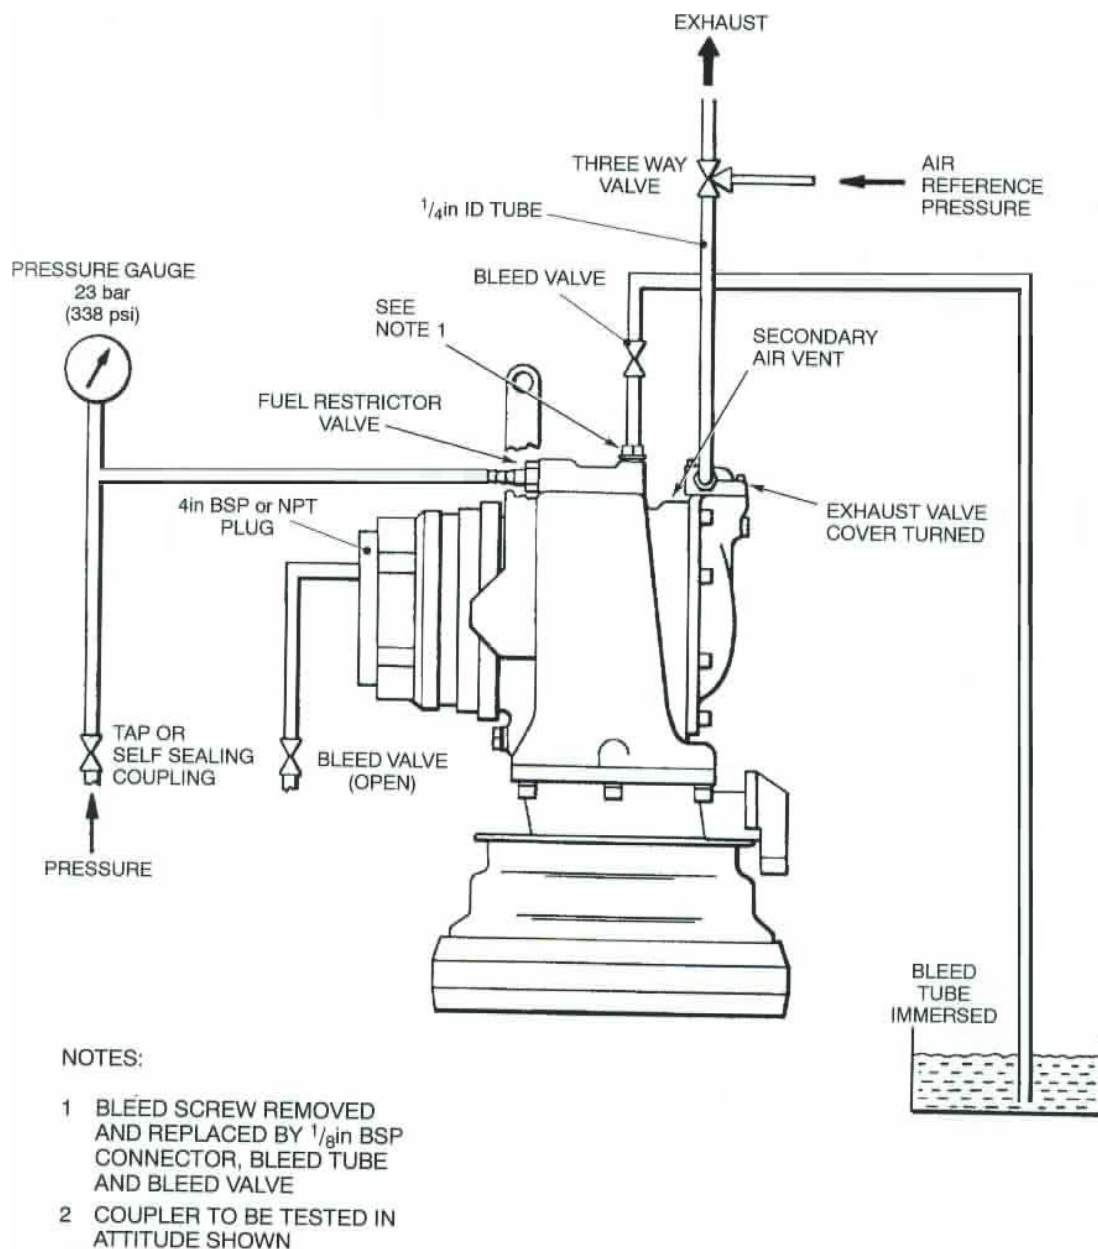

Figure 5.2 Test Rig Configuration – Tests 4
- 5.5.1 Remove exhaust valve cover (see Figure 5.2), rotate it through 90° and replace it. Make sure the bleed valve on the threaded plug is open.